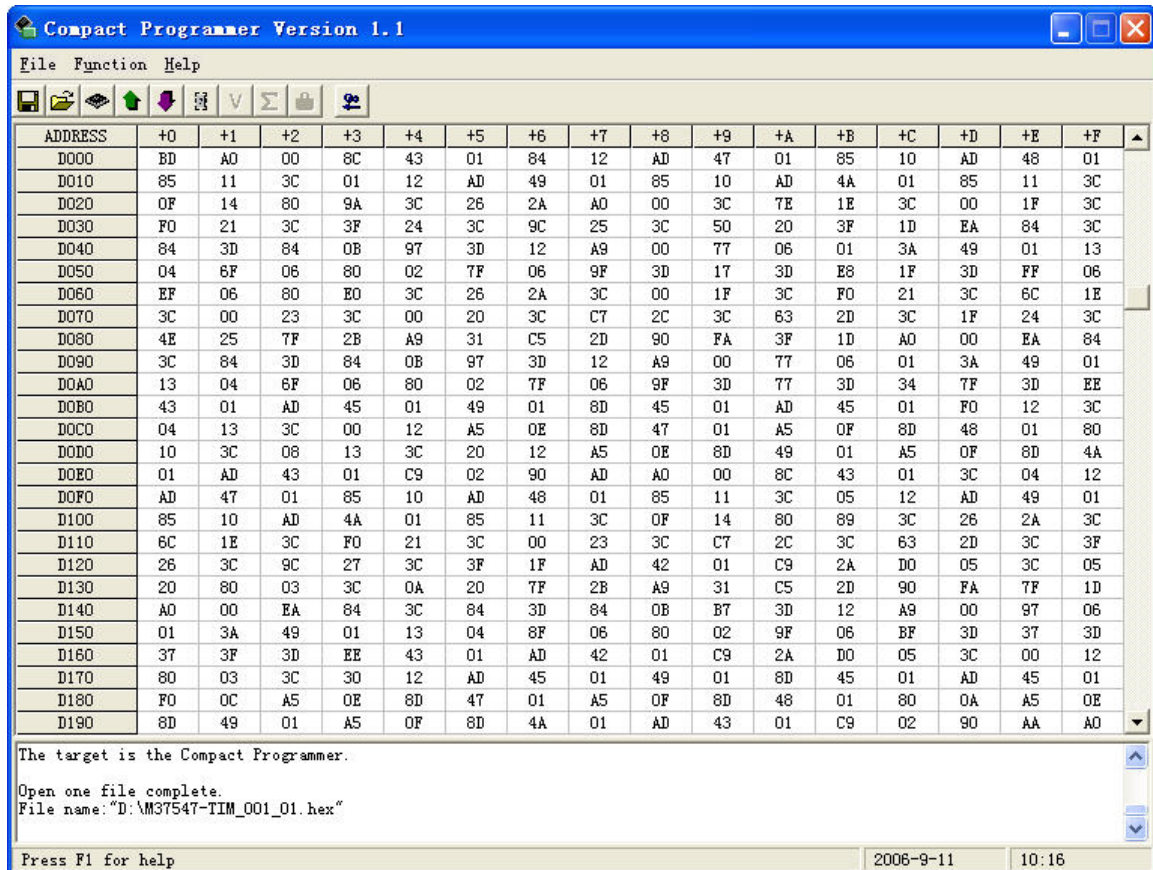

Figure 6-6: Tool Bar when Open a Valid File
- Step 1: Open a hex file. If the file is valid, the data will show in the data area of main window (refer to Figure 6-6). The download function is enabled.